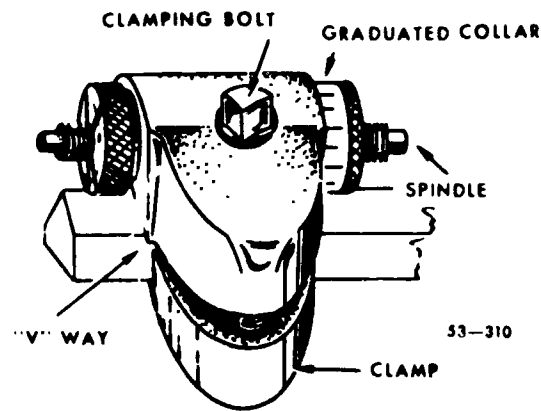

Figure 5-63 Micrometer carriage stop.
**Micrometer Carriage Stop.** The micrometer carriage stop, shown in figure 5-63, is used to accurately position the lathe carriage. Move the carriage so that the cutting tool is approximately positioned and clamp the micrometer carriage stop to the ways of the lathe, with the micrometer spindle close to (but not touching) the lathe carriage. If the spindle is in contact with the carriage when you clamp the stop in place, too much pressure may be exerted on the spindle, which could damage the threads inside the carriage stop. Next, bring the carriage into contact with the micrometer spindle. NOTE: Always bring the carriage into contact with the stop by hand. Use power feed to bring the carriage within 1/32 inch of the stop, and then move the carriage the remaining distance by hand.